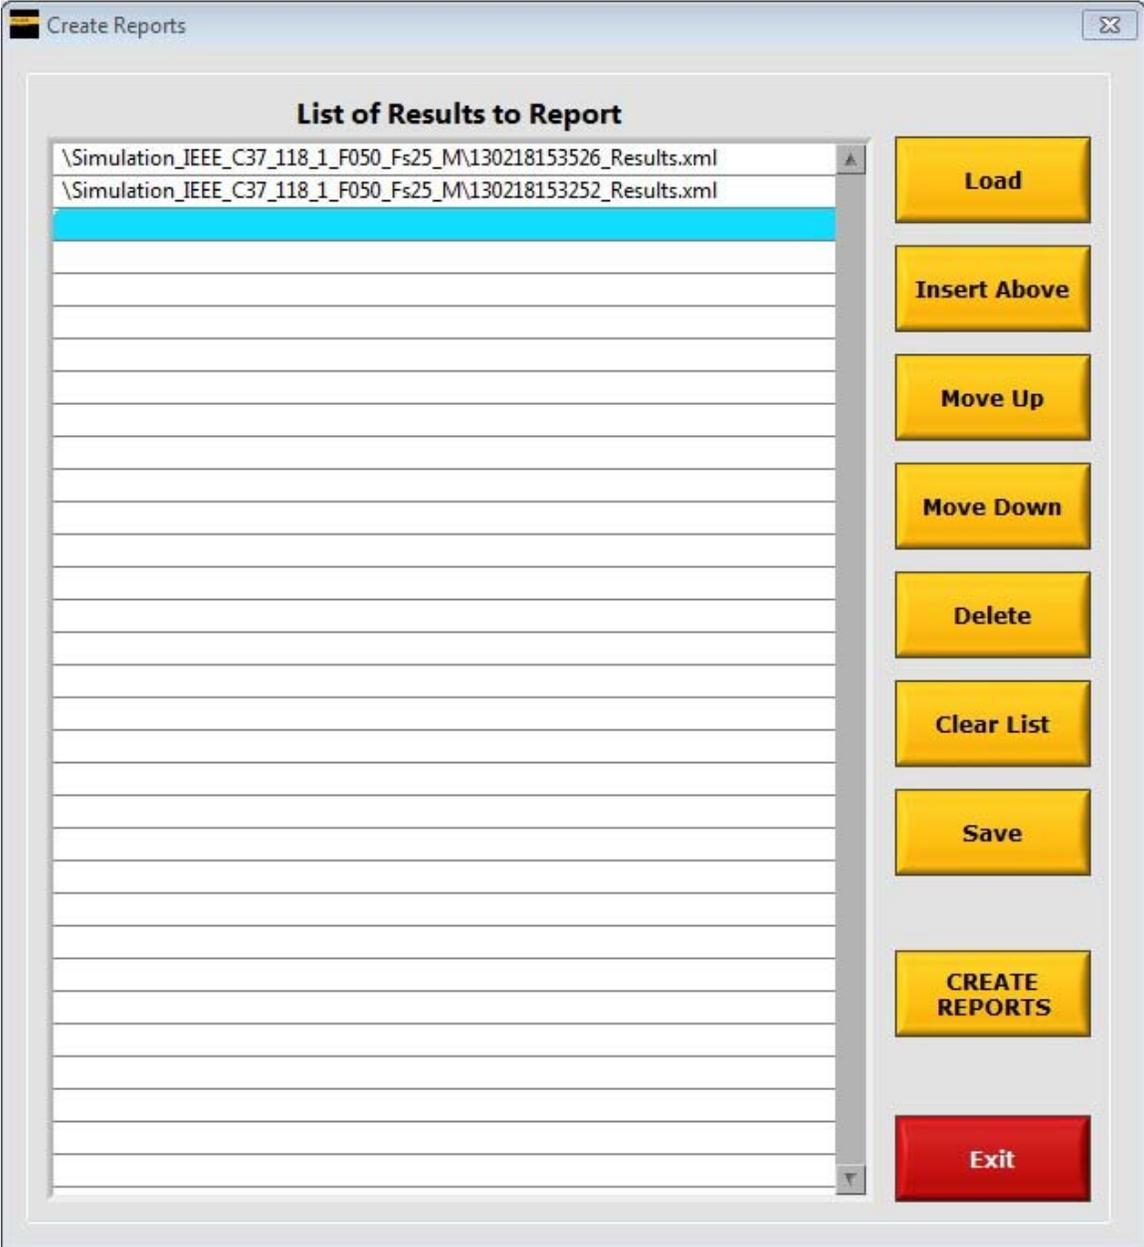

Figure 7-15. List of Results
1. Click on **Create Multiple Reports**. A screen will appear which allows the creation of a list of result files that will have reports created. See Figure 7-15.